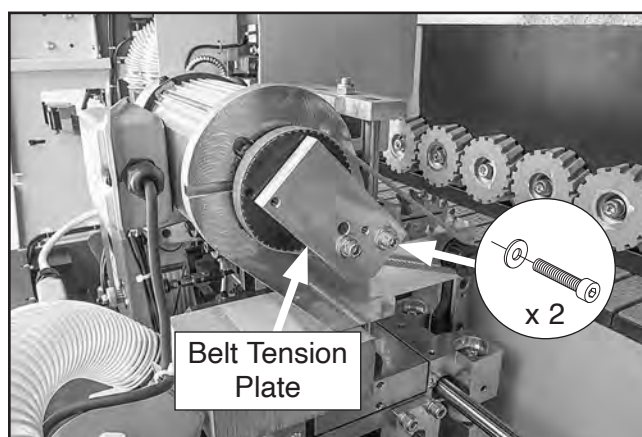

Figure 108. Location of tension plate cap screws.
6. Loosen—but do not remove—cap screws that secure end trimmer belt tension plate (see **Figure 108**).